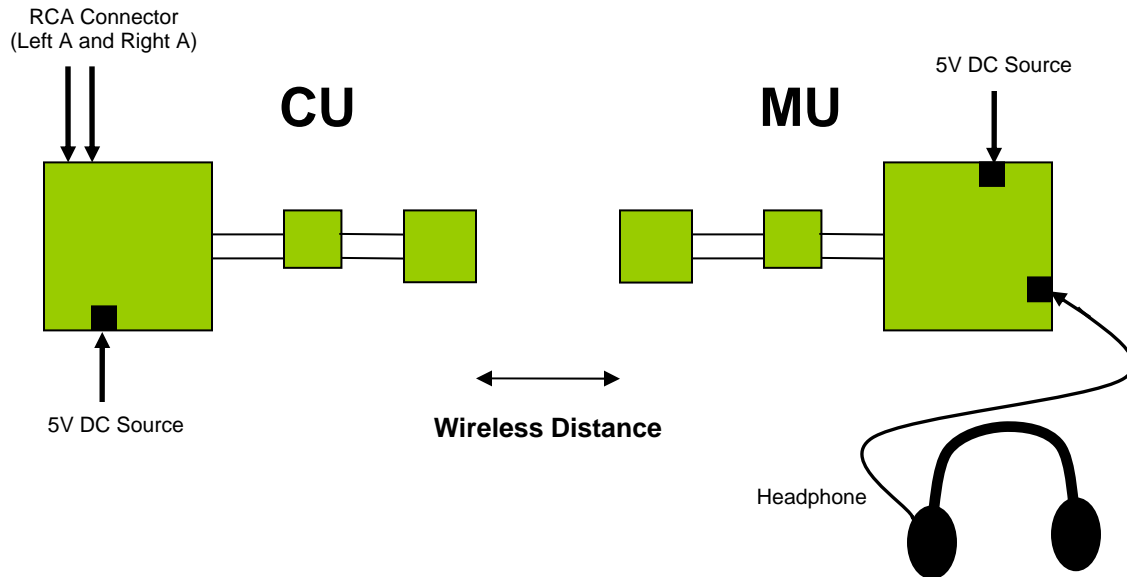

Figure 2a CU and MU in a 2 Speaker NACK Configuration
One evaluation board has already been configured as the Central Unit (CU) and the other evaluation board as the Mobile Unit (MU) as shown in figure 2a, which is a 2 Speaker NACK configuration.